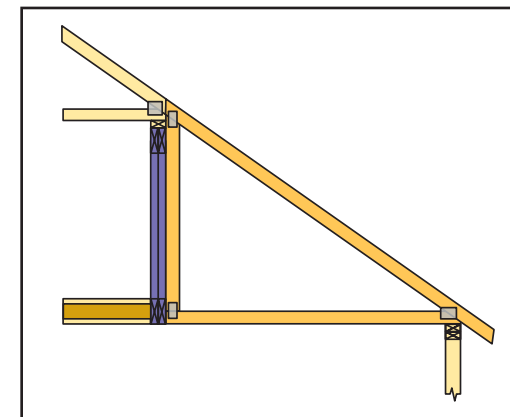

Figure 2. An interior wall girder.
**General Guideline 1: Limit Wall Girders to Interior Applications.** The key is not to expose any portion of the wall girder to external wind pressure that creates out-of-plane bending. Figure 2 demonstrates an interior wall girder application where sheathing attachment is not critical and design loads are generally the vertical gravity or uplift loads easily applied by most truss design software.
A typical example of Figure 2 is a bonus room over a garage. This application requires the wall to be furred to provide minimum sheet rock attachment per IBC Table 2304.6.